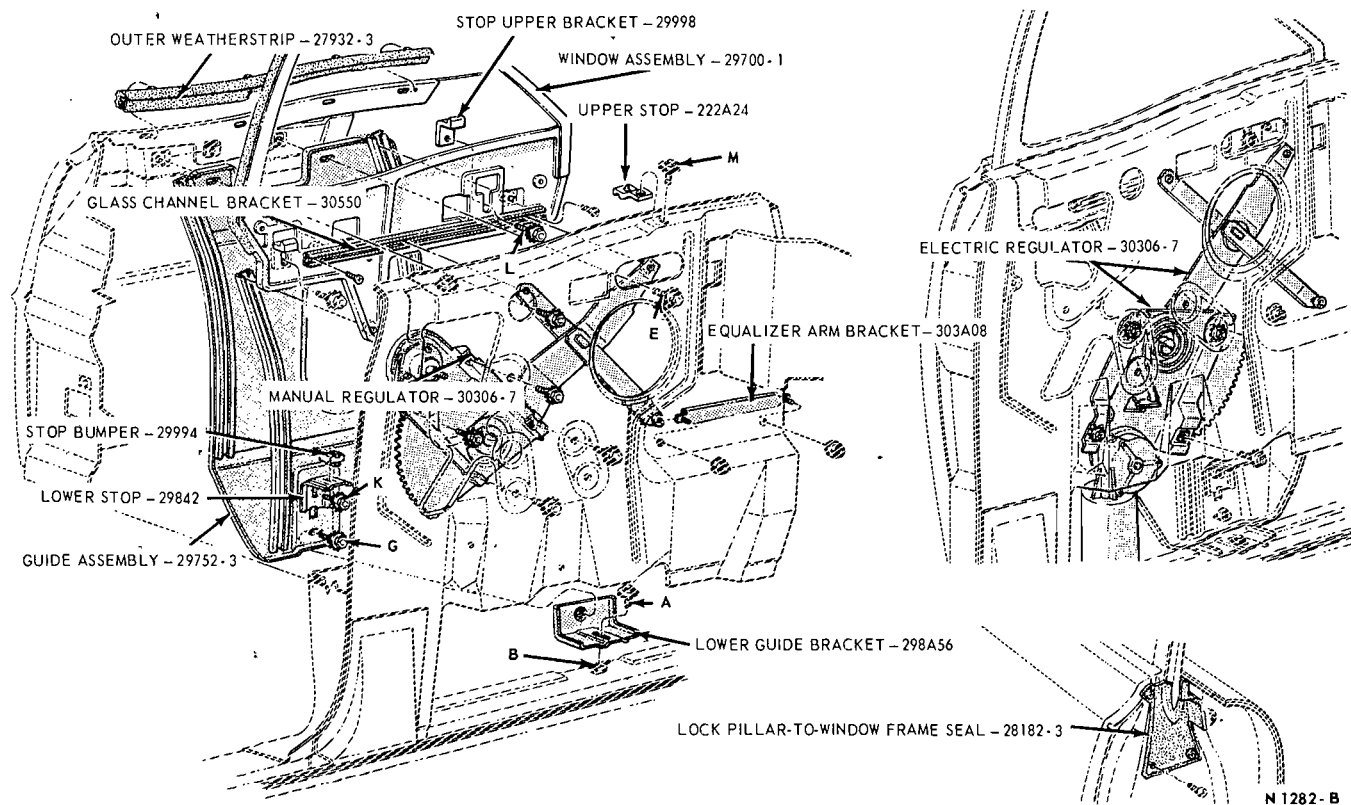

FIG. 9—Quarter Window Mechanism—Fairlane and Mercury Intermediate — Model 76
2. Loosen the screw and washer assemblies A, B, E, G, K, L and M (Fig. 9).
4. Position the upper stop assemblies (Fig. 9) and the quarter upper stop brackets and tighten the retaining screw and washer assemblies L and M.
7. Cycle the window to its down position so that the top of the window is flush with the belt line. Position the lower stop assembly against the window channel and tighten the lower stop assembly retaining screw K (Fig. 9).